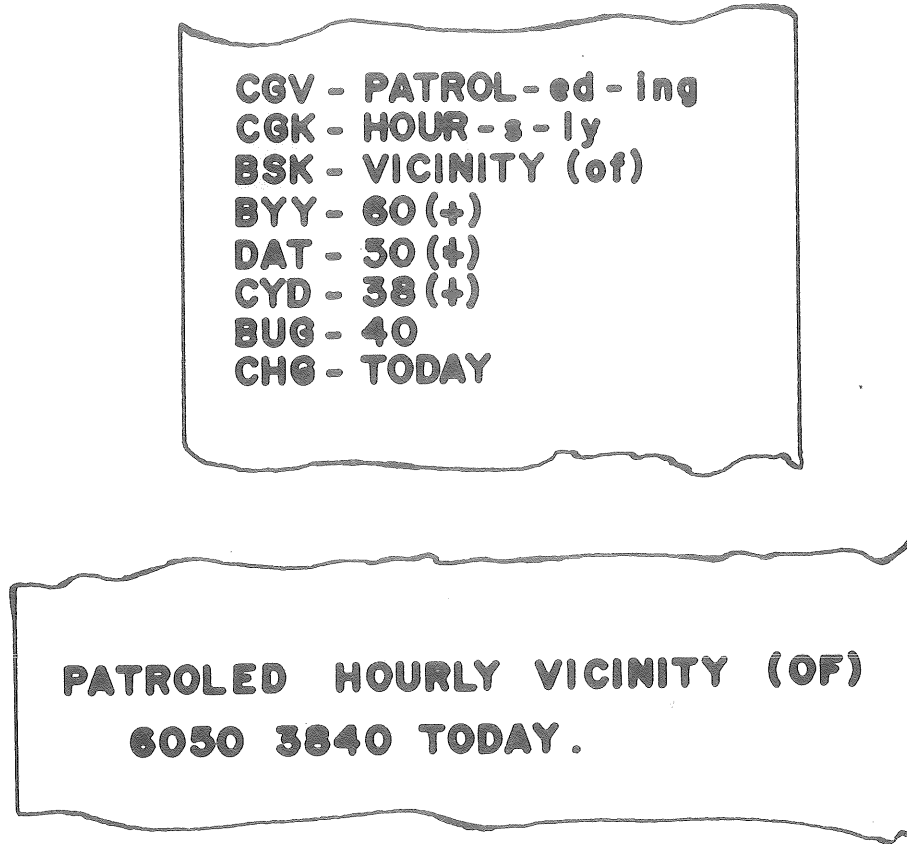

Figure 6. Sample message decoded.
- c. Find the code group and write the word, phrase, or number under that group in the encoded message (fig 6).